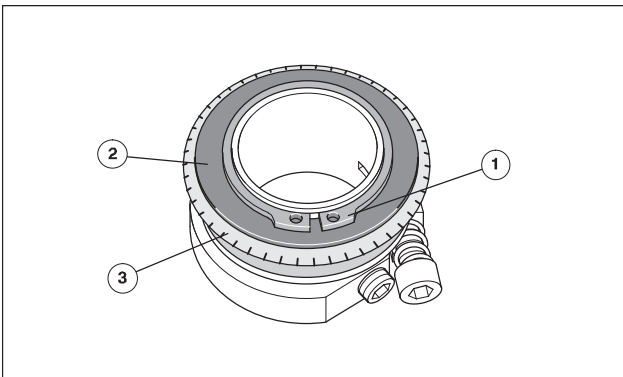

Fig. 12 Changing the perforating disc
1. Remove the circlip (Fig. 12/1) on the perforating disc.
2. Remove the intermediate ring (Fig. 12/2) on the perforating disc.
3. Remove the perforating insert (Fig. 12/3) and mount a new perforating/cutting/creasing insert.
4. Insert the intermediate ring (Fig. 12/2).
5. Secure the perforating insert with a circlip (Fig. 12/1).